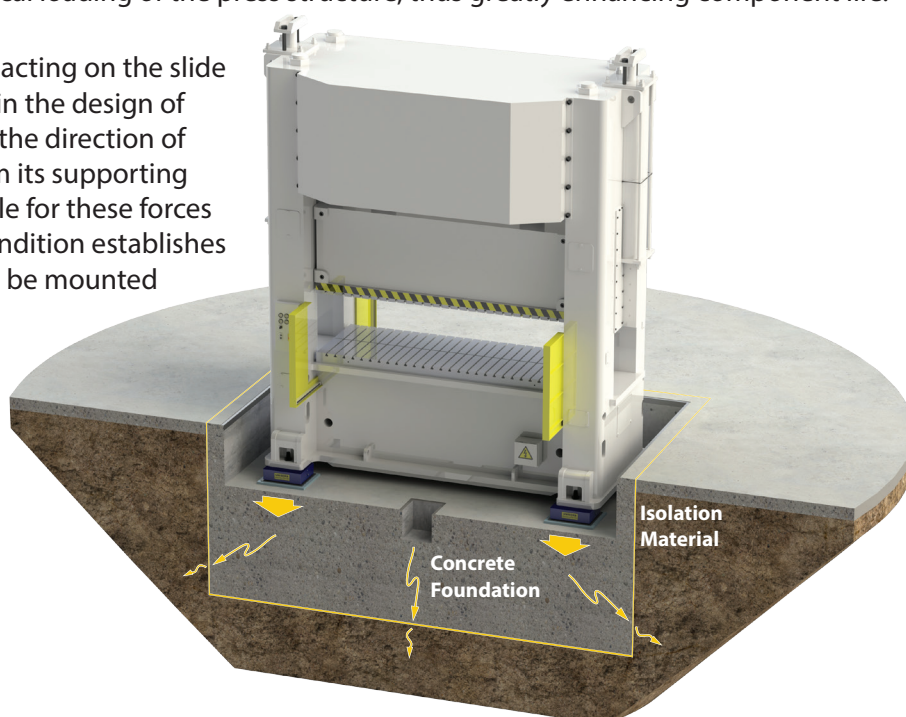

Figure 3
**3. Slide inertia forces** result from acceleration acting on the slide and are an extremely important consideration in the design of a press mounting system. They act primarily in the direction of slide travel and potentially lifting the press from its supporting surface. In some high speed presses it is possible for these forces to exceed the dead weight of the press. This condition establishes a limitation as to whether or not a press should be mounted on freestanding mounts. Machines which are manufactured with dynamic balancing equipment do not have this problem, and can safely be mounted on press mounts. Older high speed presses should be securely bolted down, and are good candidates for isolated foundations (see figure 3).